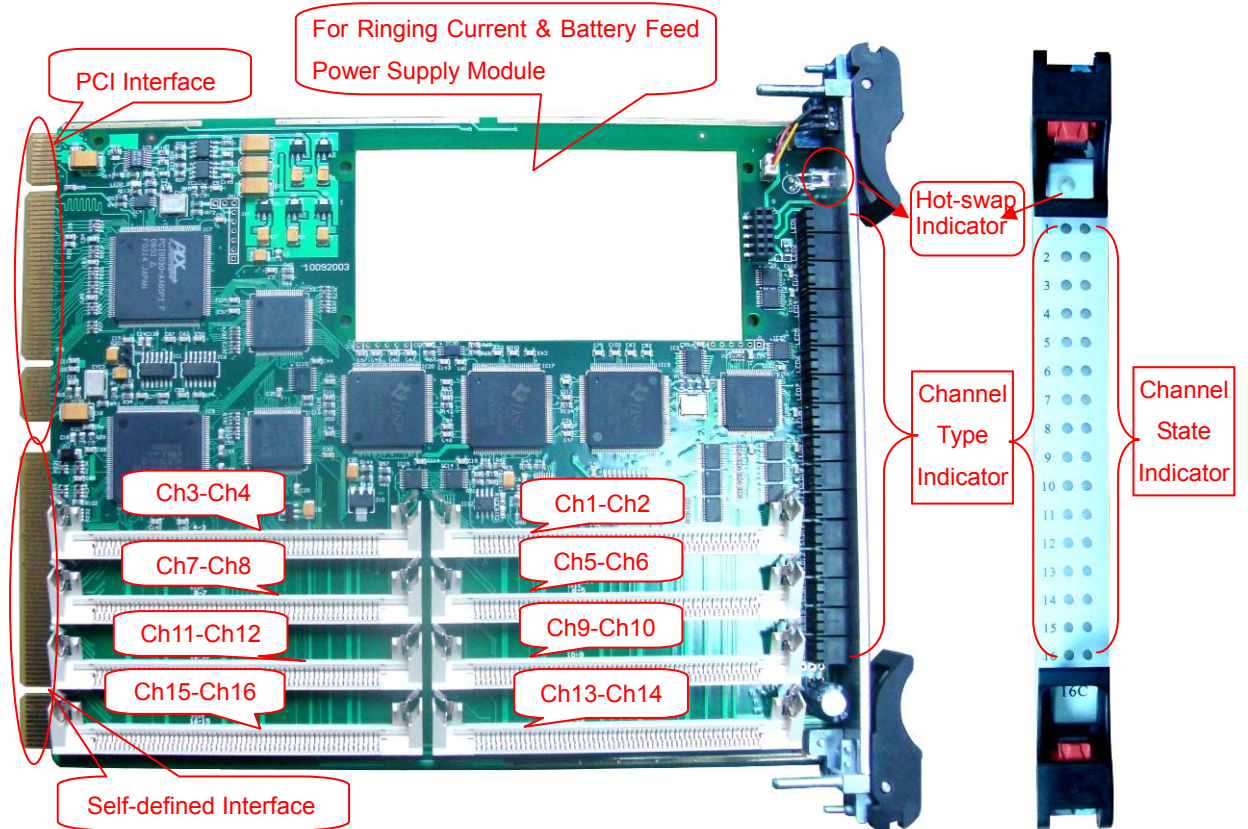

Figure 2-1 Right and Front Views
- 2) Here below is the instruction for the indicators shown in Figure 2-1.